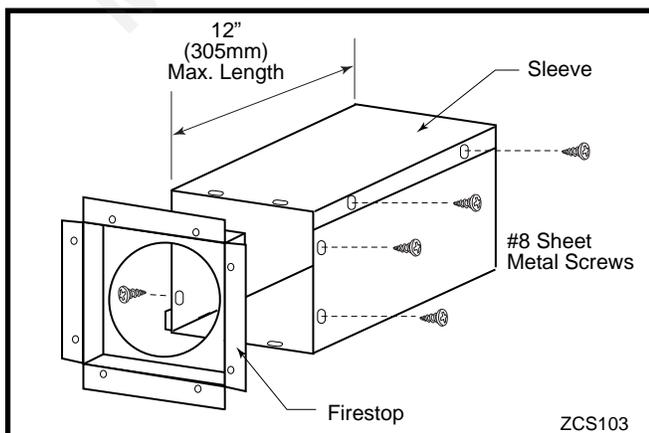

Fig. 32 Assemble the wall sleeve and firestop.
3. Measure the wall thickness and cut the wall sleeve sections to proper length (MAXIMUM 12"). Assemble the sleeve with the #8 sheet metal screws supplied. Attach the firestop plate to the sleeve end with the holes. (Fig. 32) **NOTE:** The wall sleeve is required in combustible walls only.
2. Measure the wall thickness and cut the wall sleeve sections to proper length (MAXIMUM 12"). Assemble the sleeve with the #8 sheet metal screws supplied. Attach the firestop plate to the sleeve end with the holes. (Fig. 32) **NOTE:** The wall sleeve is required in combustible walls only.
3. Install the Wall Firestop/Sleeve assembly into the wall cutout and fasten the firestop to the wall cutout framing members. (Fig. 32)